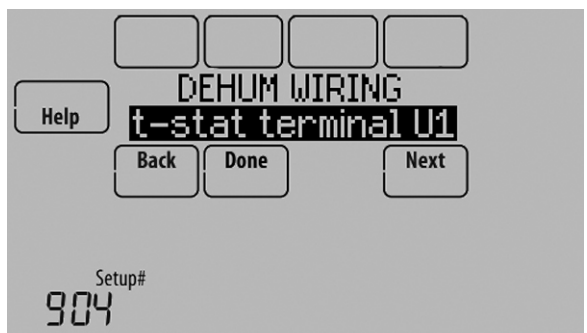

Fig. 146.
2. Select the terminals wired to the A/C with Low Speed Fan or Hot Gas Bypass. See Fig. 146.